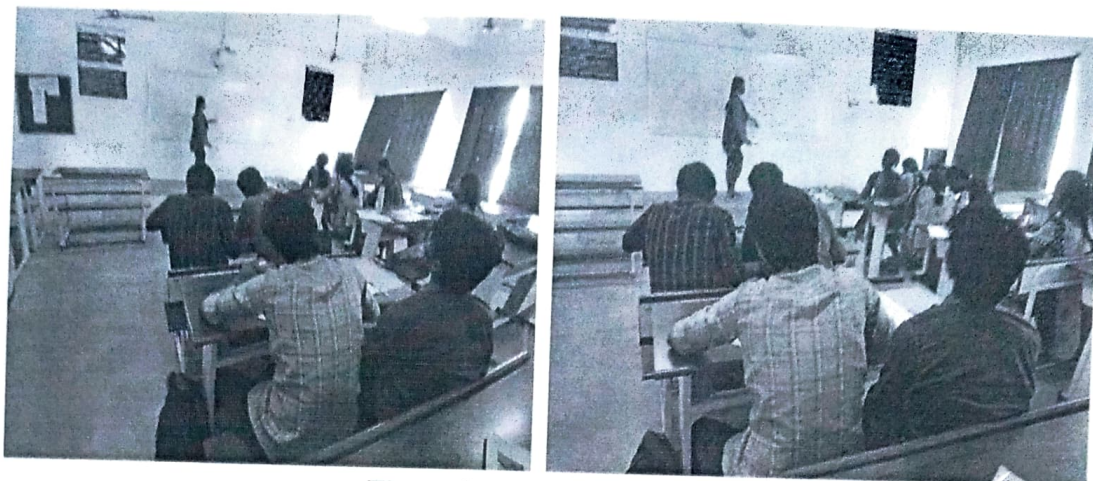

Figure 1: Learning by Teaching
- The implementation of flipped class room activity as shown in figure1 and figure2.